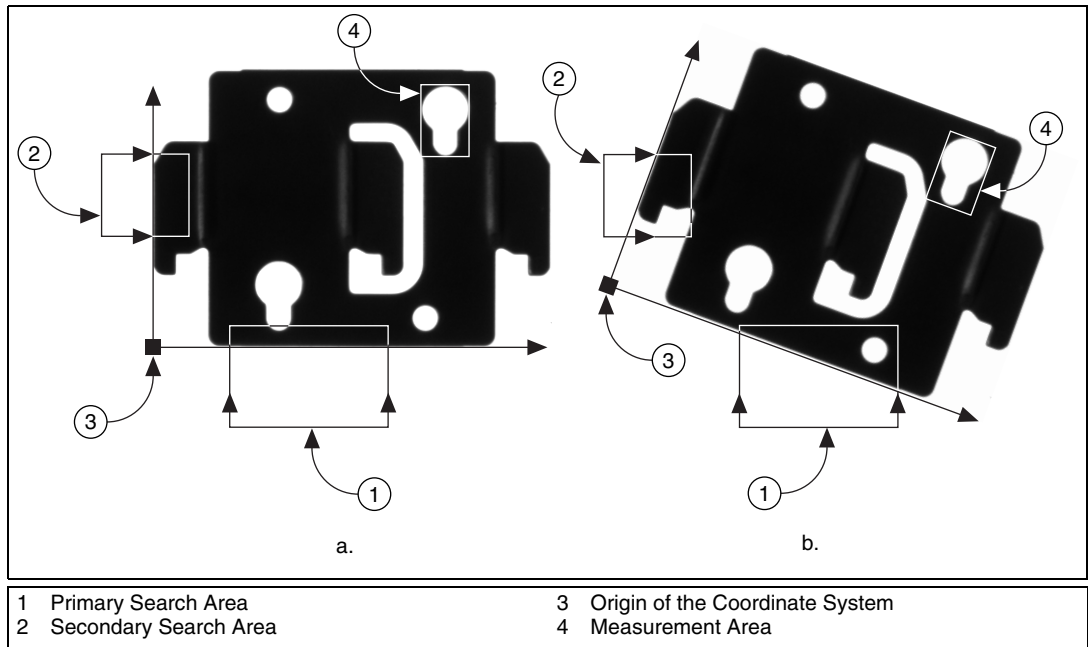

Figure 5-3. Locating Coordinate System Axes with Two Search Areas
- b. If you use `imaqFindTransformRects()`, specify two rectangles, each containing one separate, straight boundary of the object, as shown in Figure 5-3. The boundaries cannot be parallel. The regions must be large enough to include the boundaries in all the images you want to inspect.